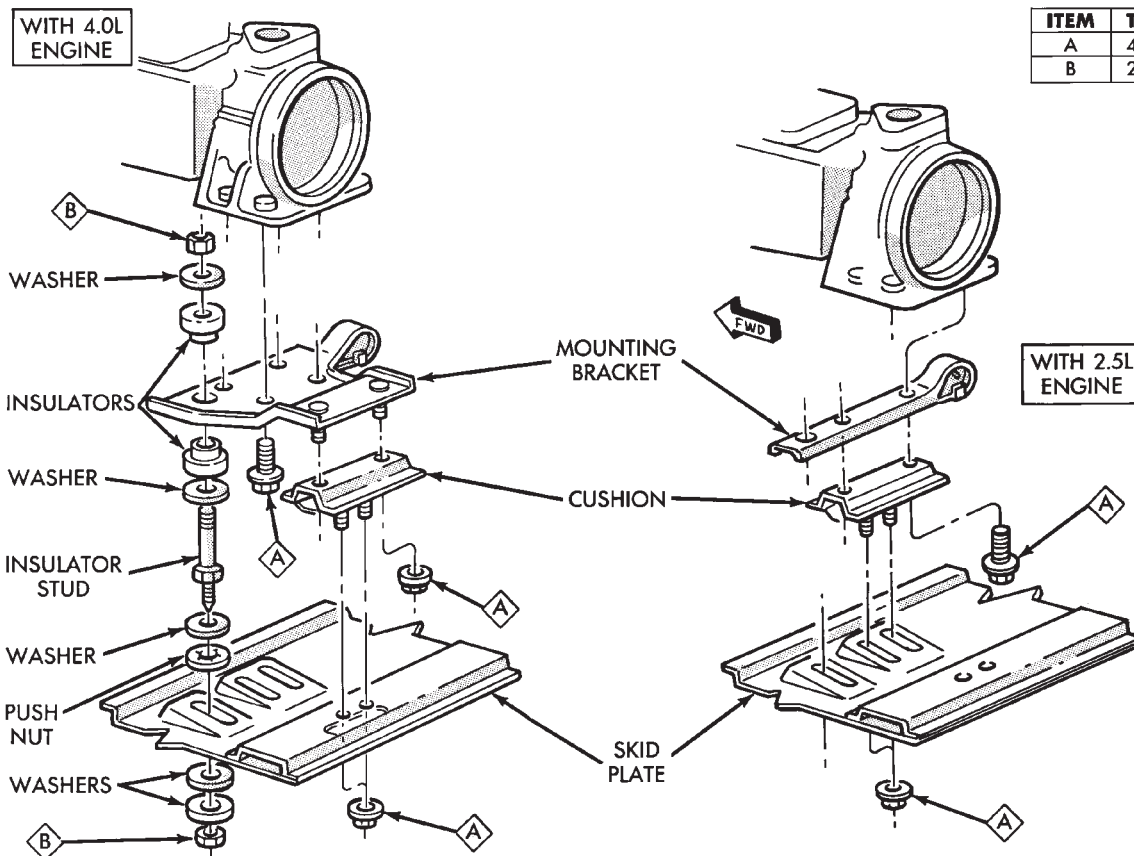

Fig. 1 Rear Mount Components (YJ Shown)
- (1) Shift transmission into first or third gear.
- (2) Raise vehicle on a hoist.
- (3) Disconnect necessary exhaust system components.
- (4) Support transmission with adjustable jack stand.
- (5) Disconnect rear cushion and mounting bracket from transmission, or transfer case (Fig. 1).
- (6) On XJ, remove rear crossmember. On YJ, remove skid plate (Fig. 1).
- (7) Disconnect transmission shift linkage, speedometer cable, transfer case vacuum lines and clutch hydraulic lines.
- (8) Lower transmission-transfer case assembly no more than 7.6 cm (3 in.) for access to shift lever.